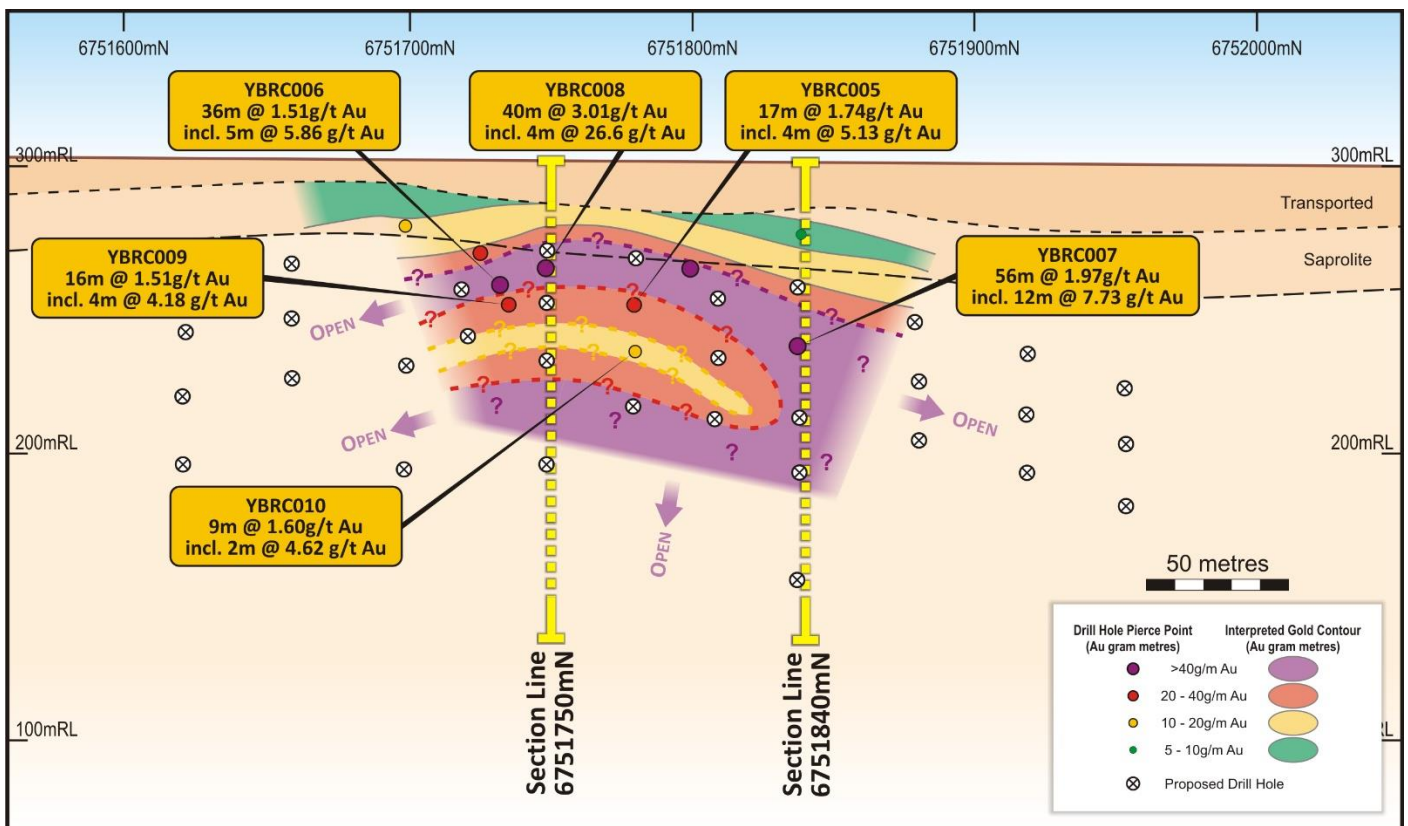

Figure 1: Yidby Road longitudinal Projection showing doubly plunging mineralisation and proposed holes
- These fresh-rock intersections are open down dip and along strike/down plunge to the north and south, as shown on the longitudinal projection enclosed (Figure 1)
Surefire Resources NL (ASX: SRN, "the Company" or "SRN") is pleased to announce that it will shortly commence a major drilling program focussed on the Yidby Road Prospect in the Mid-West region of Western Australia (Figure 1).
The exceptional intersections recently produced from Yidby Road are from fresh rock, open at depth and define a zone that is open to the north and south of the drilled area to date (see longitudinal projection Figure 1).